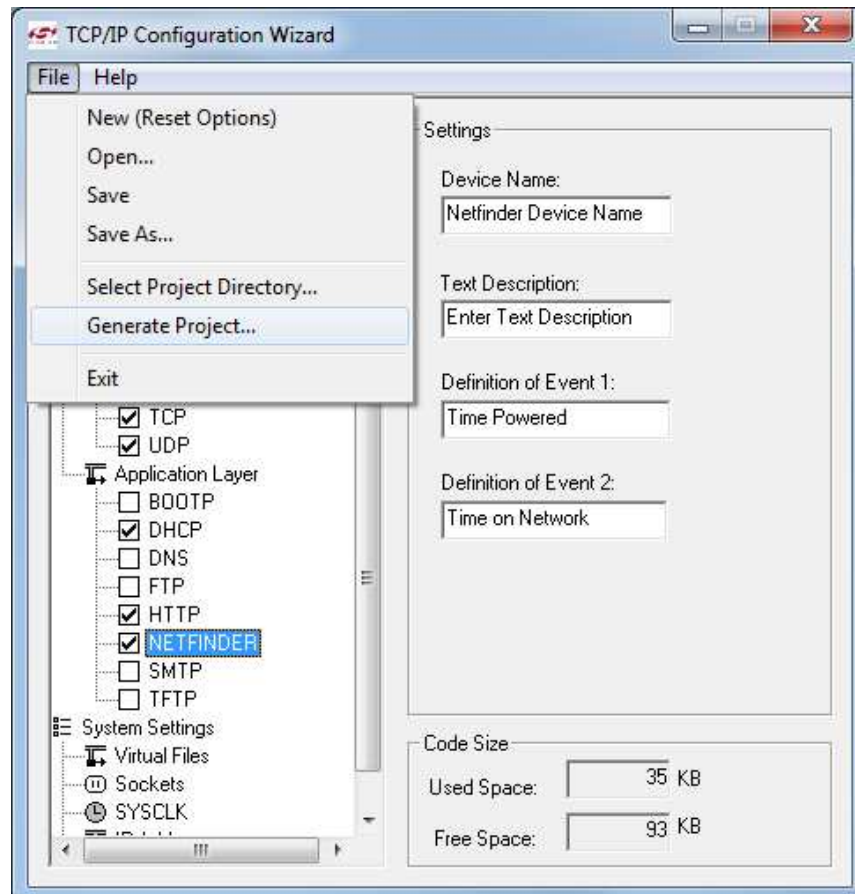

Figure 13. TCP/IP Configuration Wizard Project Generation
6. Generate a new project with supporting firmware by selecting **Generate Project** from the **File** menu (see Figure 13).